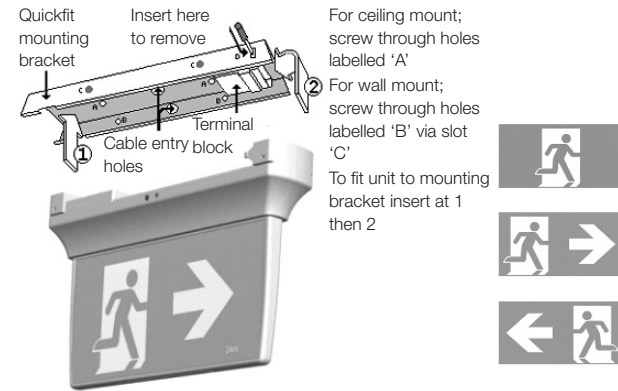

Figure 2: Quickfit insertion diagram and internal view
3. Take the mounting bracket and whilst holding it into place against the ceiling or wall, use a pencil to mark the position of the screw holes (at A or B in figure 2) and cable entry position through the bracket onto the ceiling or wall as appropriate. Make sure to allow at least 50mm of free space to the right hand side of the final location of the unit to allow for the sliding function of attaching the unit to the mounting bracket. If need be, turn the bracket around and swap the diffuser with the back plate to permit room for inserting and removing the unit from the mounting bracket. Orient the bracket in such a way as to make the LED and push button readily visible and accessible when the unit is installed.
6. Fit the diffuser assembly to the body of the unit (if not already in place). Attach the unit to the mounting bracket by aligning the top left hand end of the unit (the end without the protruding electrical connecting metal lugs) with the large cut-away slot towards the left hand end of the bracket. Slip the left hand end of the unit up into the slot in the left hand end of the bracket (step (1) in figure 2) and hold the unit horizontal to and parallel with the bracket. It should be approximately 50mm to the right of its final destination. Simply slide the unit (step (2) in figure 2) 50mm to the left along and into the bracket to engage the connections and the locking tab. Once in place, the unit cannot be removed from the bracket without the use of a tool (a small screwdriver) to push in the locking tab at 'D' in figure 2. Ensure the correct pictograph inserts have been attached to the diffuser assembly.
1. Gently insert a small screwdriver into the slot (at 'D' in figure 2) on the front of the bracket towards the right hand end of the fitting, to ease the locking tab into the fitting and away from the bracket.